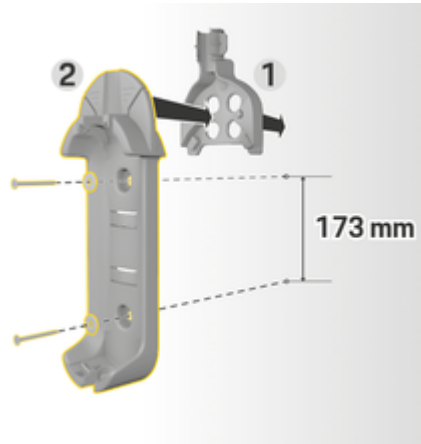

Fig. 26 Drilling dimensions
3. Press the basic wall mount 2 (Fig. 26) into the cable guide 1 (Fig. 26) from the front.